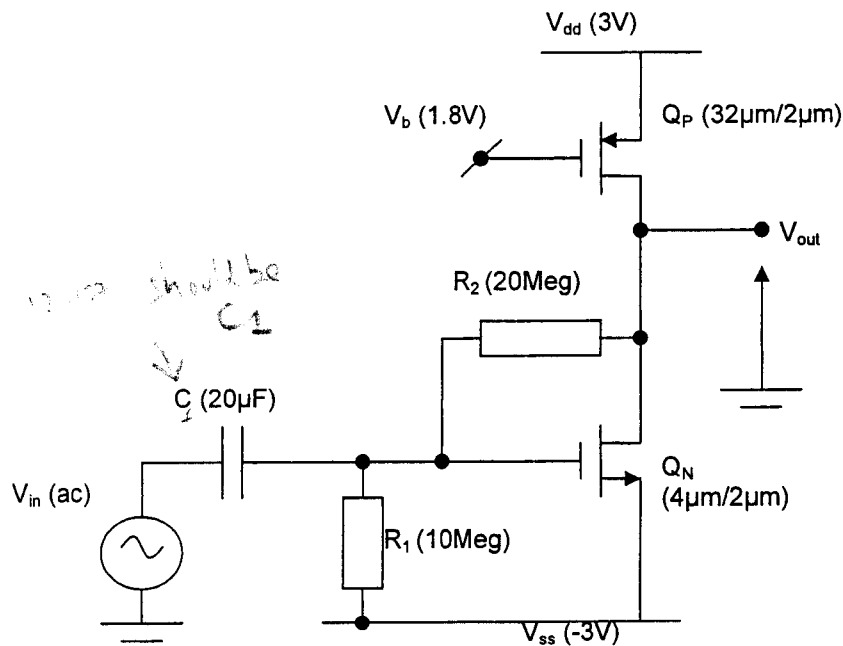

Figure 1.1
1. (a) The circuit shown in Figure 1.1 is a single-stage inverting voltage amplifier using two CMOS FETs. Write a simple SPICE programme which will compute a small signal gain and phase frequency response analysis of the circuit over the frequency range 10 kHz to 10 MHz. The .OPTIONS card and the transistor model process parameters  $Q_P$  and  $Q_N$  are already built into the SPICE Library.